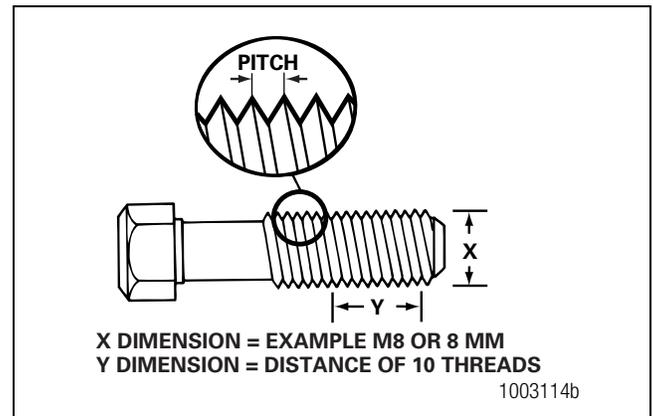

Figure 7.2
1. Measure the diameter of the threads in millimeters (mm), dimension X. Figure 7.2.
2. Measure the distance of 10 threads, point to point in millimeters (mm), dimension Y. Make a note of dimension Y. Figure 7.2.